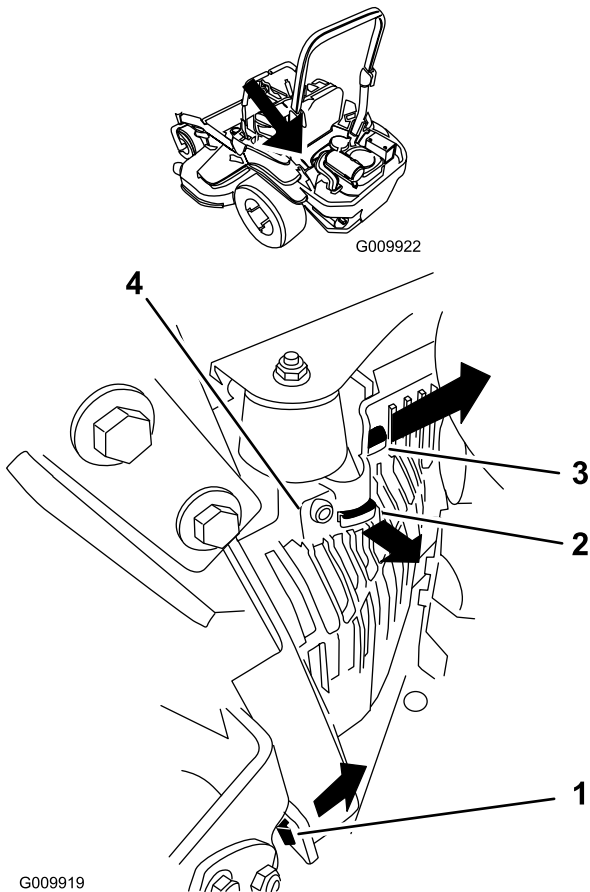

Figure 52
3. Remove the lefthand hydraulic unit shroud in the order listed with Figure 52. This gives you access to the front spark plug.
5. Install the lefthand hydraulic unit shroud (Figure 52).